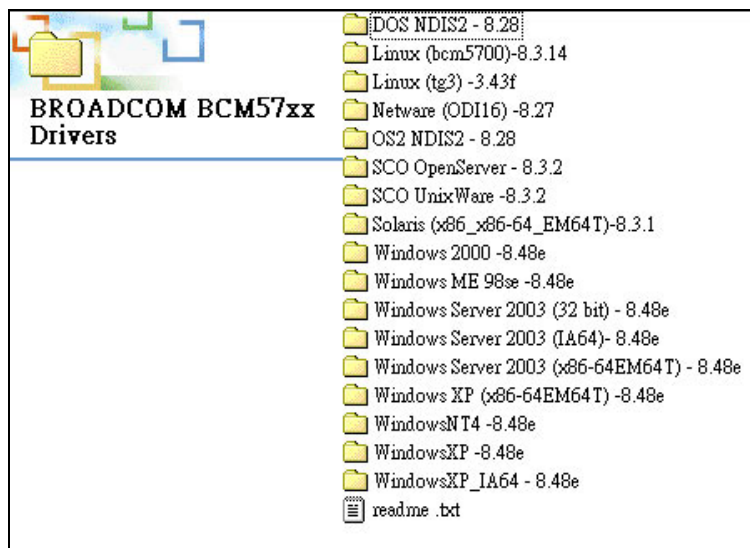

Figure 6-26: Location Browsing Window
Step 2: A new window appears showing the folder contents on the CD for the IDE driver. Navigate to the **Audio\AC97\Windows** (or other appropriate OS) sub-folder to view the folder contents on the CD for the audio driver (**Figure 6-26**).
Step 8: Select the proper OS folder under the “X:\5-LAN\BROADCOM BCM57xx Drivers” directory (Figure 6-26) in the location browsing window, where “X:” is the system CD drive.